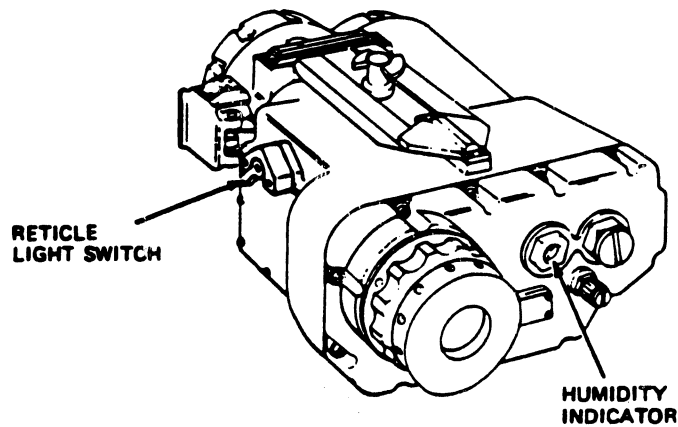

Fig 2-29. Day sight tracker (reticle light switch/humidity indicator).
Step 4. Ensure that the **RETICLE LIGHT** switch on the day sight tracker is set to **OFF**. Ensure that the 30-percent section of the humidity indicator is blue. (If the 30-percent section is pink or white, notify support maintenance) (fig 2-29).